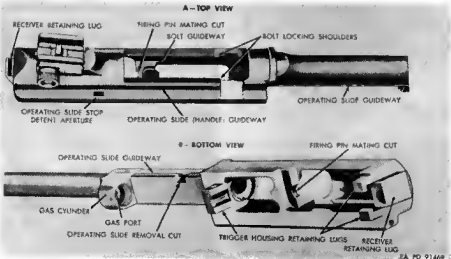

Figure 78. Barrel end receiver group — points of inspection.
- (1) Inspect operating slide spring well for rust or foreign matter. Visually inspect receiver for break-through of the operating slide spring hole. This break-through occurred in the original manufacture of some receivers because of the drill running out through either the bottom or right-hand exterior surfaces. If the forward end of the break-through is 3 inches or more from the front end of the receiver, it is acceptable; otherwise, it must be rejected (DEPOT MAINTENANCE ONLY). Any sharp or feather edges around this break-through are to be removed.
- (2) Inspect receiver under "black light" (Magnaglo or approved equal) for cracks in the area around the bolt locking slot at the right hand side and at the front and rear trigger housing retaining lugs (DEPOT MAINTENANCE ONLY). Receivers having cracks extending in both directions around a corner must be rejected.
- (3) Visually inspect condition of firing pin retracting cam mating cut in the bridge of receiver (Fig. 78). This cam was cut to an angle of 33 degrees in the earlier manufacture of receivers and later to 45 degrees. Both are acceptable if in good condition.
- (4) Visually inspect trigger housing retaining pinhole in the receiver. If out-of-roundness is apparent, reject the receiver (DEPOT MAINTENANCE ONLY).
- (5) Inspect the bullet ramp in the receiver to assure it is clean and smooth for proper feeding of the ammunition. Burrs and sharp edges should be removed by careful polishing with fine emery cloth. The lower edge of the
- (6) Inspect receiver for looseness with barrel, deformation, rust and burrs. If receiver is disassembled from barrel, inspect for worn or crossed threads in barrel aperture (DEPOT MAINTENANCE ONLY).
- (7) Inspect bolt guideway and locking shoulders for wear, burrs, cracks, and foreign matter. Inspect receiver retaining lug on rear end (Figs. 78 and 104) for wear, burrs, and looseness with recoil plate when assembled to stock.
- (8) Inspect operating slide guideway on right side for wear, burrs, and foreign matter, and operating slide removal cut for wear and burrs. Inspect operating slide stop detent aperture for wear, burrs, and foreign matter. Forward surface of aperture should be at a sharp right angle to receiver, and with a clean edge to facilitate retention of stop, and rear face smooth and sloping to facilitate camming. Inspect the rear inside face of receiver for foreign matter.
- (1) The muzzle of all barrels must be counterbored (Fig 78) during rebuild to remove tool marks, nicks,